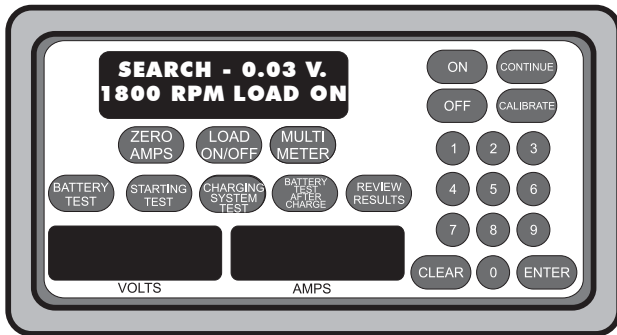

Figure 23
1. Press [LOAD ON/OFF] once to put the load on. The bottom line of the display reads "LOAD ON" (see Figure 23).